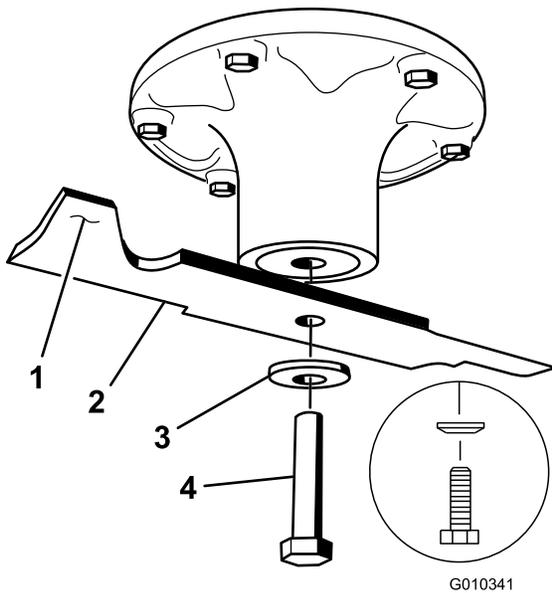

Figure 60
Hold the blade end using a rag or thickly-padded glove. Remove the blade bolt, curved washer, and blade from the spindle shaft (Figure 60).
- A. File some metal off the end of the sail area only (Figure 60).
1. Install the blade onto the spindle shaft (Figure 60).
2. Install the spring disk and blade bolt (Figure 60).